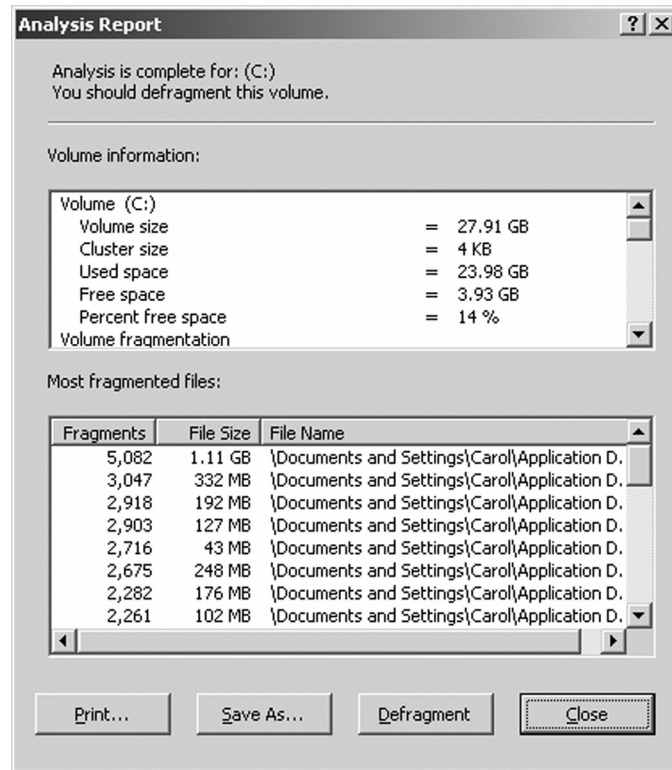

Figure 7-12: Analysis Report dialog box
8. Click the View Report button. An **Analysis Report** dialog box opens (Figure 7-12).